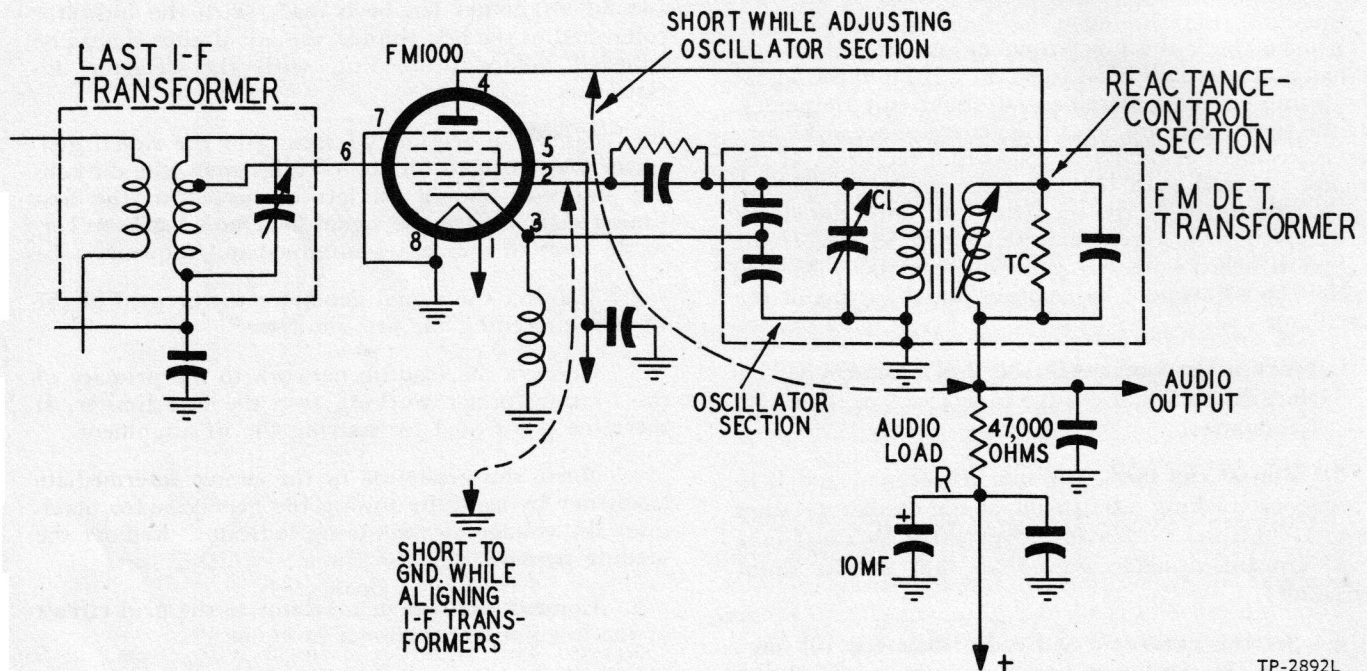

Figure 14. Advanced FM Detector Circuit
tube (see figure 14) are used as grid and anode, respectively, of a modified Colpitts oscillator which nominally operates at the center intermediate frequency. The output of the i-f amplifier stages is fed into the injection grid (pin No. 6) of the FM1000 tube. The reactive coupling between the plate circuit of the FM1000 tube and the oscillator circuit causes the oscillator to lock in and follow the frequency variations of the i-f signal. The effect of the foregoing combination of elements is such that, as the oscillator frequency increases, the plate current through the audio load resistor R decreases, and, as the oscillator frequency decreases, the plate current in-
trol grid (pin 2) to the chassis, as shown in figure 14; the pentode section then serves as an AM detector, the audio output being proportional to the amplitude of the signal at the last i-f transformer. The i-f, r-f, and oscillator alignment is made with a modulated r-f sig-
6. Short out the reactance-control circuit of the detector by connecting the jumper across the plate coil, from the plate (pin 4) of the FM1000 tube to the audio load resistor R , as shown in figure 14.
7. Turn off the signal-generator modulation, and adjust the oscillator trimmer (C^1 in figure 14) for zero beat; the beat note heard should increase in frequency on either side of the correct trimmer adjustment.